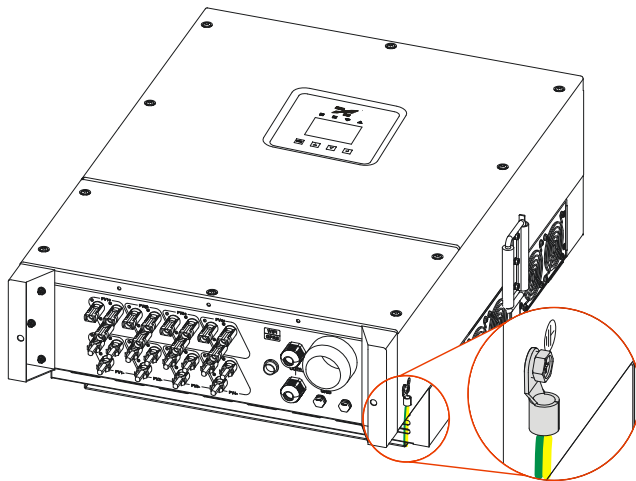

Figure3-10 Grounding
- Step 1 Before perform the electrical connection, ensure the grounding terminalof inverter has been connected with the ground, as shown in Figure3-10.